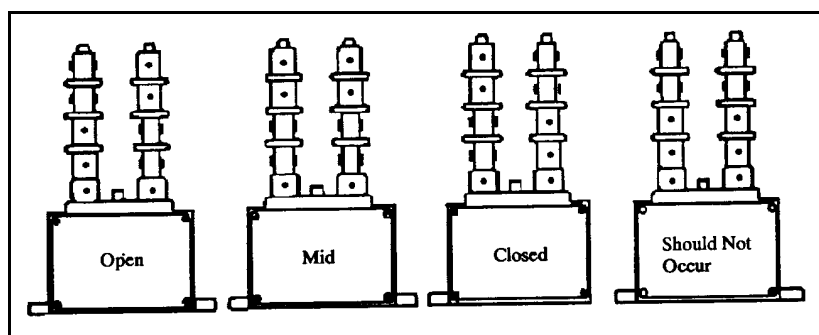

Figure 4-57 Limit Switch Configurations
13. Verification of limit switch coarse adjustment may be performed at this time. (Figure 4-57)